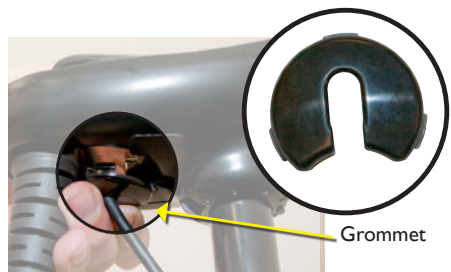

FIGURE 15
5. Remove grommet by pulling back on coil cord strain relief and pushing down on grommet until it pops out. (Figure 15)